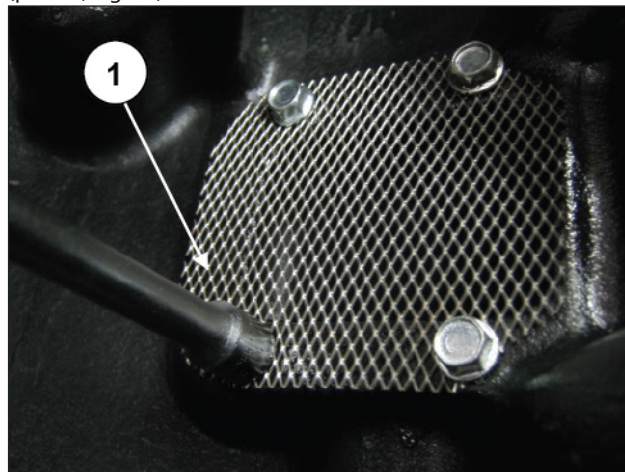

Fig. 68
Fix the oil filter mesh on the rear casing using four M6 screws (pos. ①, Fig. 68).